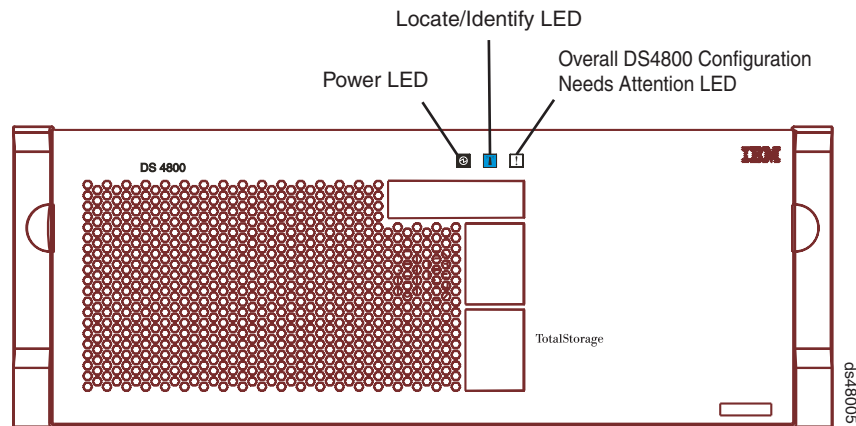

Figure 94. Overall DS4800 Configuration Needs Attention LED on the DS4800 front bezel
1. Locate the failed interconnect-battery unit by checking the Overall DS4800 Configuration Needs Attention LED on the front bezel of the storage subsystem. (Figure 94 shows the location of the Overall DS4800 Configuration Needs Attention LED on the front bezel.)